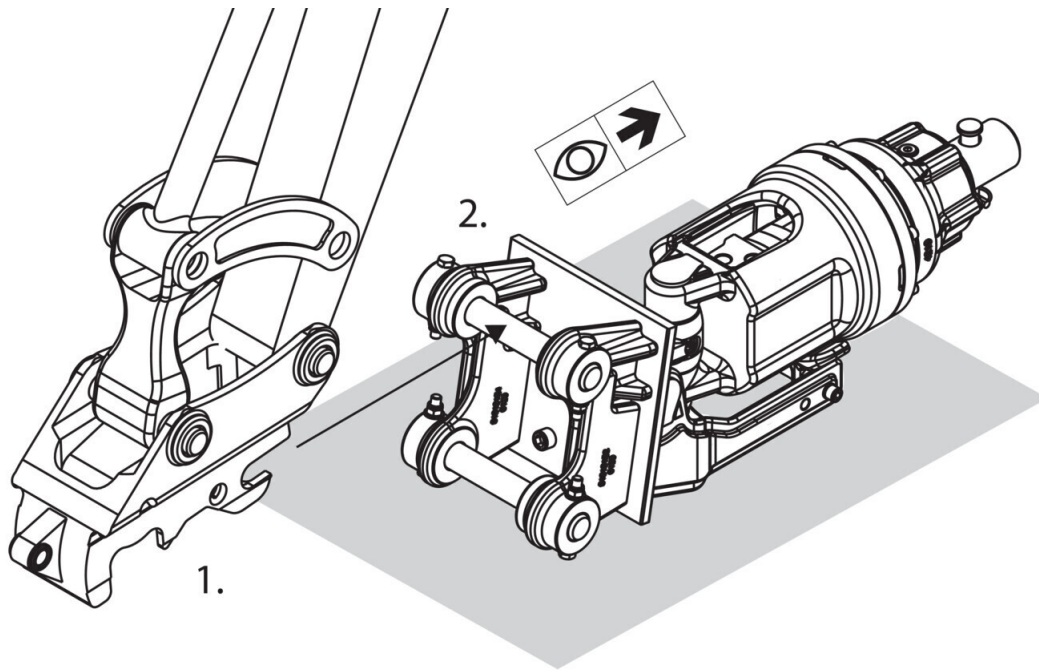

Fig. 21
Double Pin Bucket Mount. Shown the correct orientation of the auger drive unit assembly, item 2. and mounting bracket, item 1. The shaft of the auger drive should face the parent machine and operator. **Fig. 21**